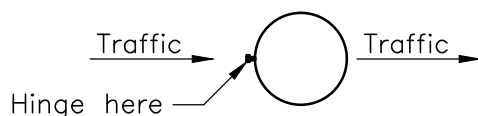

Fig.1
7. Manhole covers in the road shall be constructed so that the cover hinge is facing the oncoming traffic. (Refer Fig 1)
4. Manhole covers in road shall be constructed so that the cover hinge is facing the oncoming traffic. (Refer Fig.1)